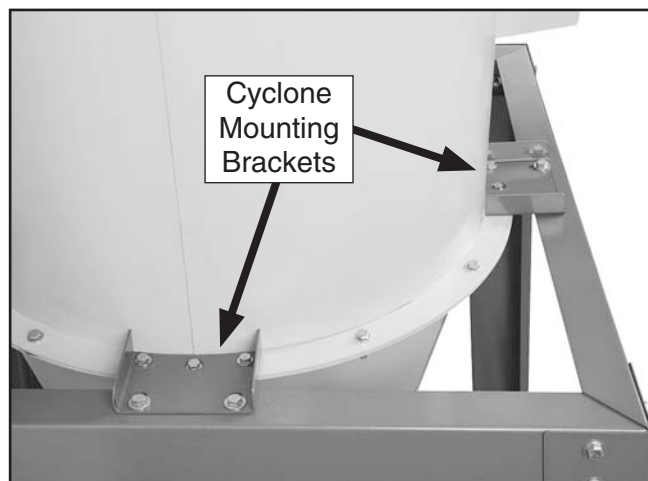

Figure 25. Mounting blower/intake assembly to upper stand.
- Lower the blower/intake assembly into the upper stand assembly so that the cyclone mounting brackets align with the mounting holes of the upper stand braces (see **Figure 25**).